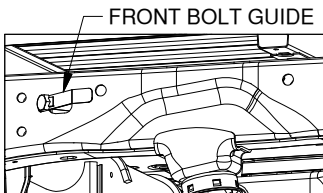
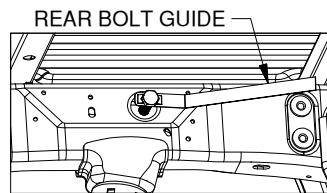

Figure B3: View from outside of driver side wheel well, front bolt guide installation step. 1
Figure B6: View under bed inside of driver side frame, rear bolt guide installation step. 1
- 2. Install the bolt guides.** Insert the front bolt guides (shorter ones) into the frame and guide the threaded end of the bolts out the holes as shown in figures B3 to B5. Insert the rear bolt guides through the large holes on the inside of the frame rails and guide the threaded end of the bolts out of the holes in the frame as shown in figures B6 to B8.